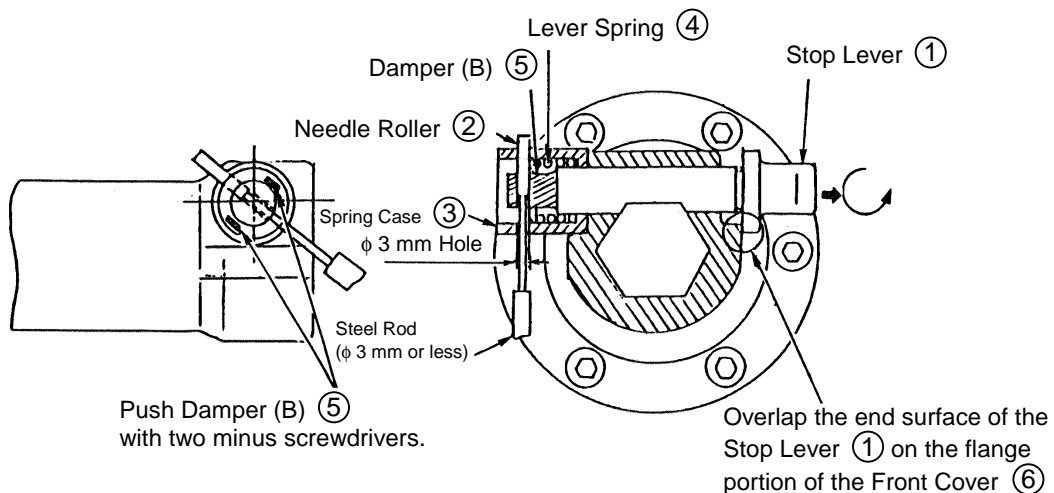

Fig. 7
Disassembly procedures are illustrated in Fig. 7. Pull the Stop Lever ① outward in the direction indicated by the arrow, and turn it slightly so that its end surface comes to rest on the flange portion of the Front Cover ⑥. Next, turn the Spring Case ③ so that the holes of the Spring Case are aligned with the Needle Roller ②. Then, push in Damper (B) ⑤ with minus screwdrivers to compress the Lever Spring ④. Finally, while keeping the Lever Spring compressed, fit a ϕ 3 mm or less steel rod into the hole of the Spring Case ③, and push out the Needle Roller ②. The Stop Lever ①, Damper (B) ⑤, and Lever Spring ④ can then be taken out.